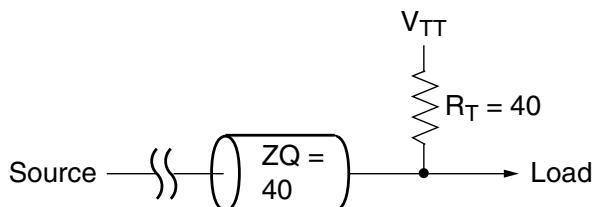

Figure 1-91: 40 Ω Termination to V_{TT}
- Single ended 40Ω traces and termination are required for operation at 1,333 Mb/s and higher. 50Ω is acceptable below 1,333 Mb/s. Figure 1-91 and Figure 1-92 are for 1,333 Mb/s and higher.
- Address and control signals (A, BA, RAS_N, CAS_N, WE_N, CS_N, CKE, ODT) are to be terminated with the onboard DIMM termination. If DIMM termination does not exist or a component is being used, a 40Ω pull-up to V_{TT} at the far end of the line should be used (Figure 1-91). Except for the CK/CK_N which requires a differential termination as shown in Figure 1-93.